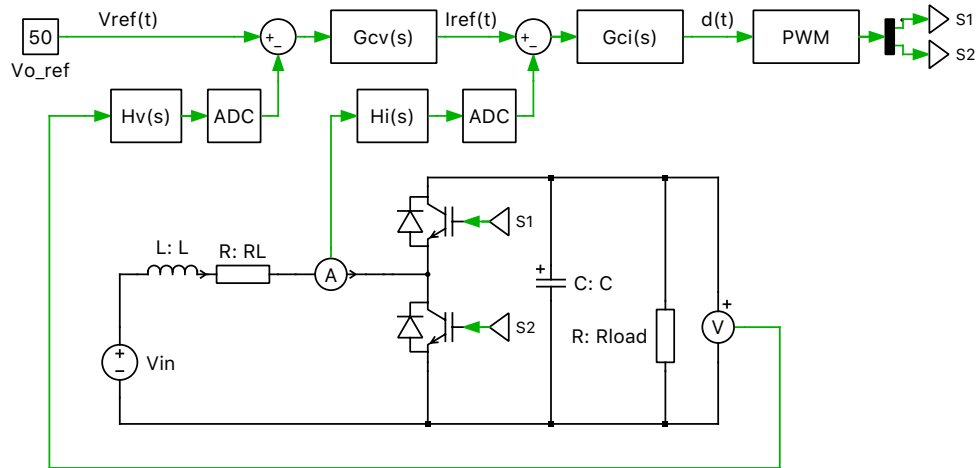

Figure 1: Conceptual diagram of ICov control for a synchronous boost
The goal of this lab is to design and test a controller for the synchronous boost power stage you have designed for your E-Bike. A common control strategy for boost converters is cascaded or multi-loop control comprising an inner current loop control and an outer voltage loop control. The high-bandwidth inner control loop regulates the inductor current, the reference for which is obtained from a lower-bandwidth outer loop controller regulating the output voltage of the power stage. This is shown conceptually in Figure 1. The control design portion of this lab is derived from Sections 1.5, 2, and 4.2 of the supplemental textbook [1], which is a useful reference during this lab exercise. Automated design techniques are highly recommended for this lab. Note: The R,L,C values for this lab differ than from EE452, since our switching frequency is lower. Use $L = 1.3mH$, $C = 250$, $R = 10\Omega$, $R_L = 60m\Omega$
- Configure one channel which will generate the PWM for S2 (Fig 1), and the complement of that PWM will be supplied to S1. Make sure that this channel number corresponds to the channel number in the PLECS module.